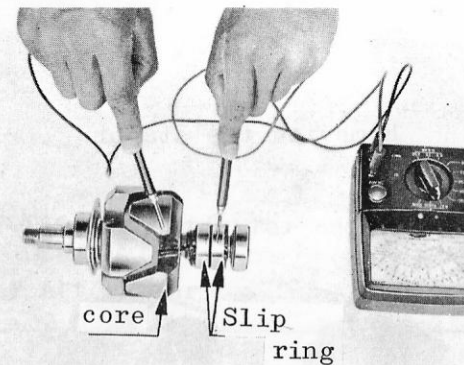

Fig. 10-21
- (7) The rotor coil should be checked for insulation. The tester may be connected between the slip ring and the shaft or the core to see if conduction takes place. If so, it is that the slip ring or the coil is grounded. (See Fig. 10-21) If conduction does not takes place between two slip rings, the coil is disconnected. For its resistance, refer the paragraph "Maintenance Standard".